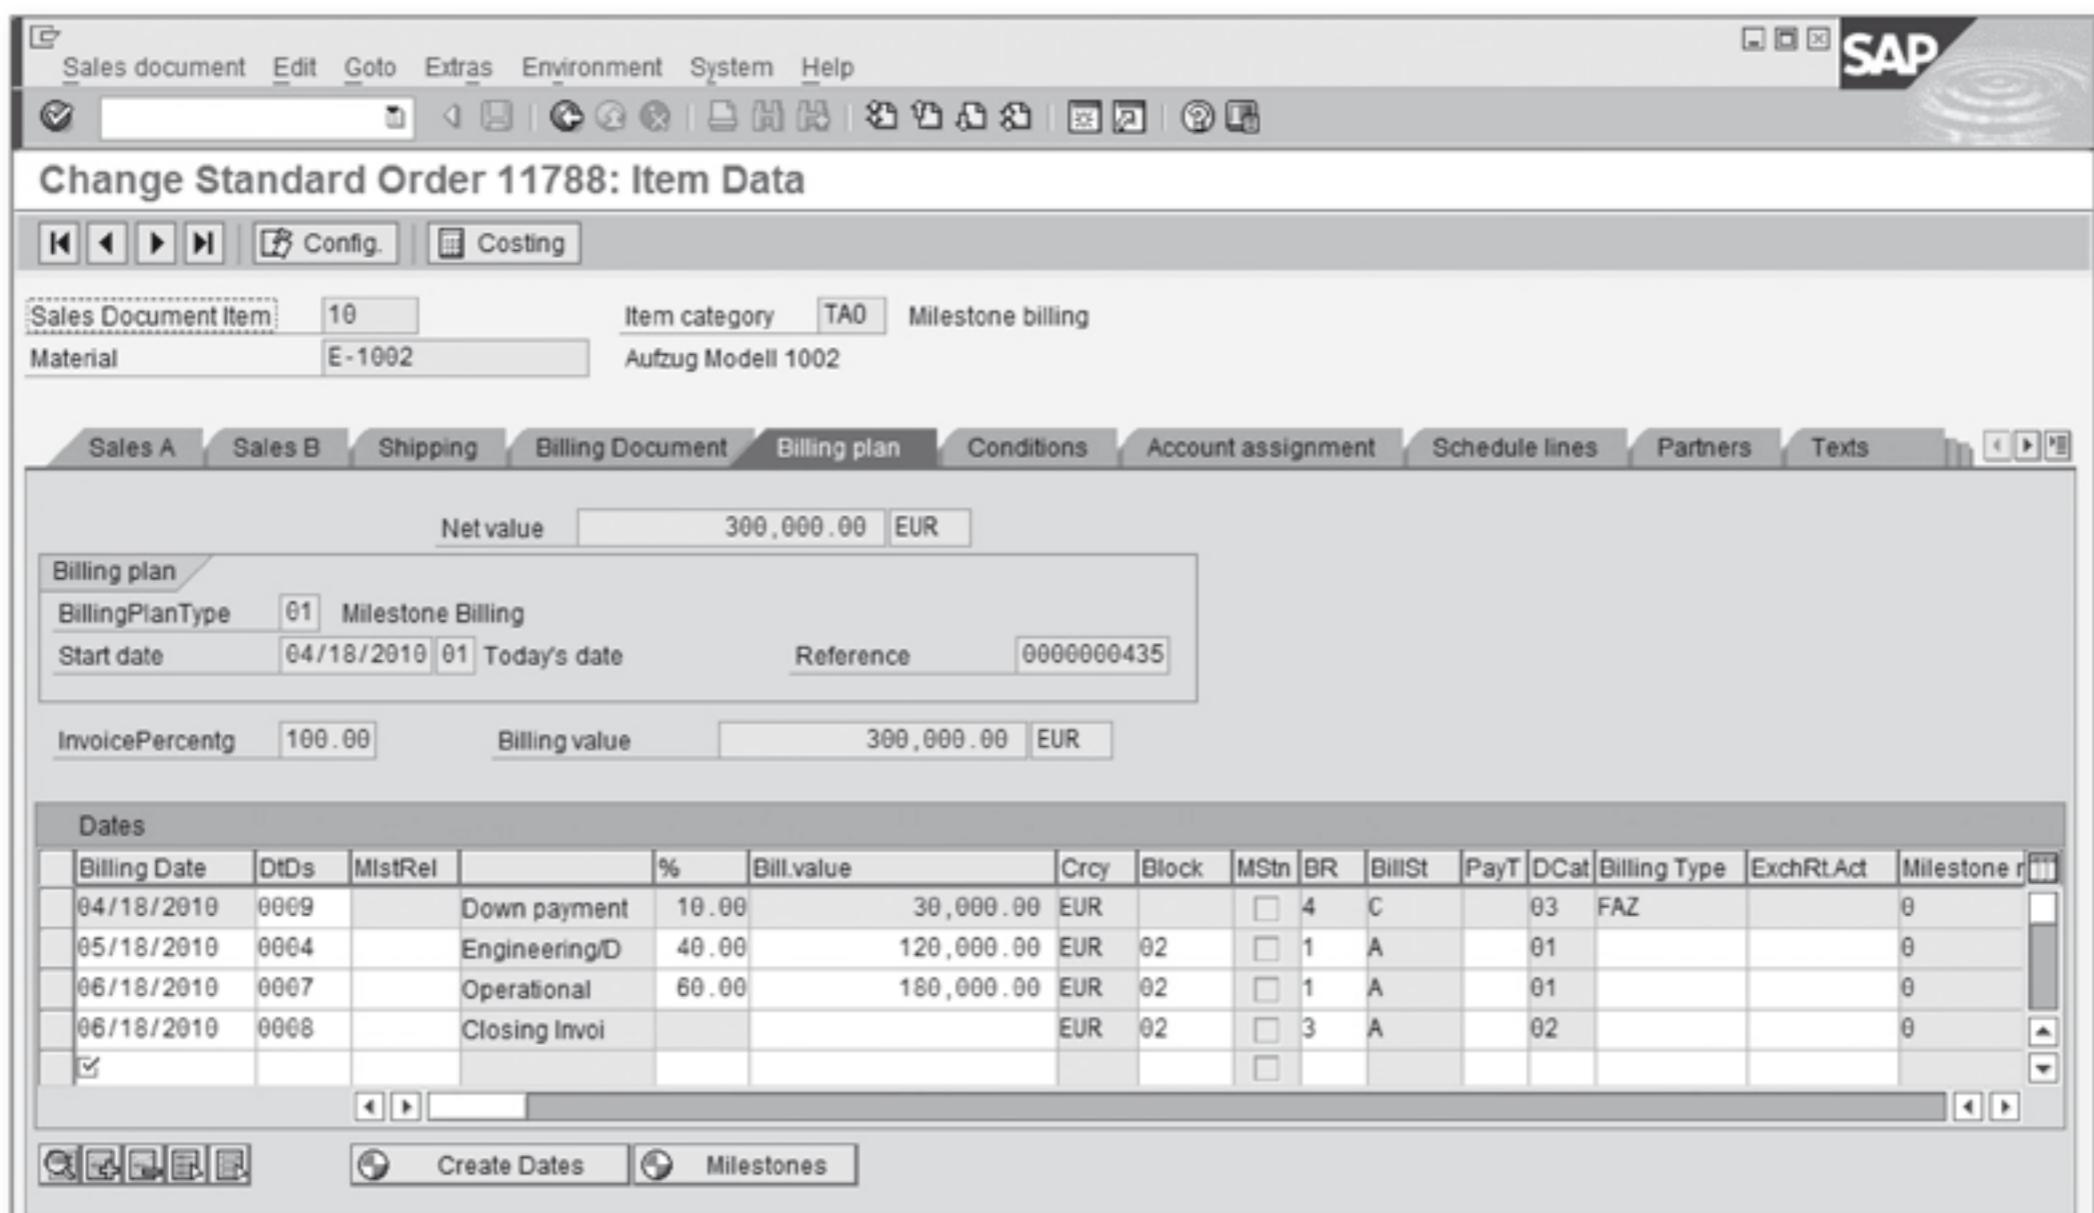

Figure 5.36 Billing Plan Overview with Down Payment
2. Your billing plan will be generated with suggested dates, percentage values, calculated down payment amounts, and the required billing document type for the down payment request based on your Customizing settings. See Figure 5.36 for a generated billing plan.